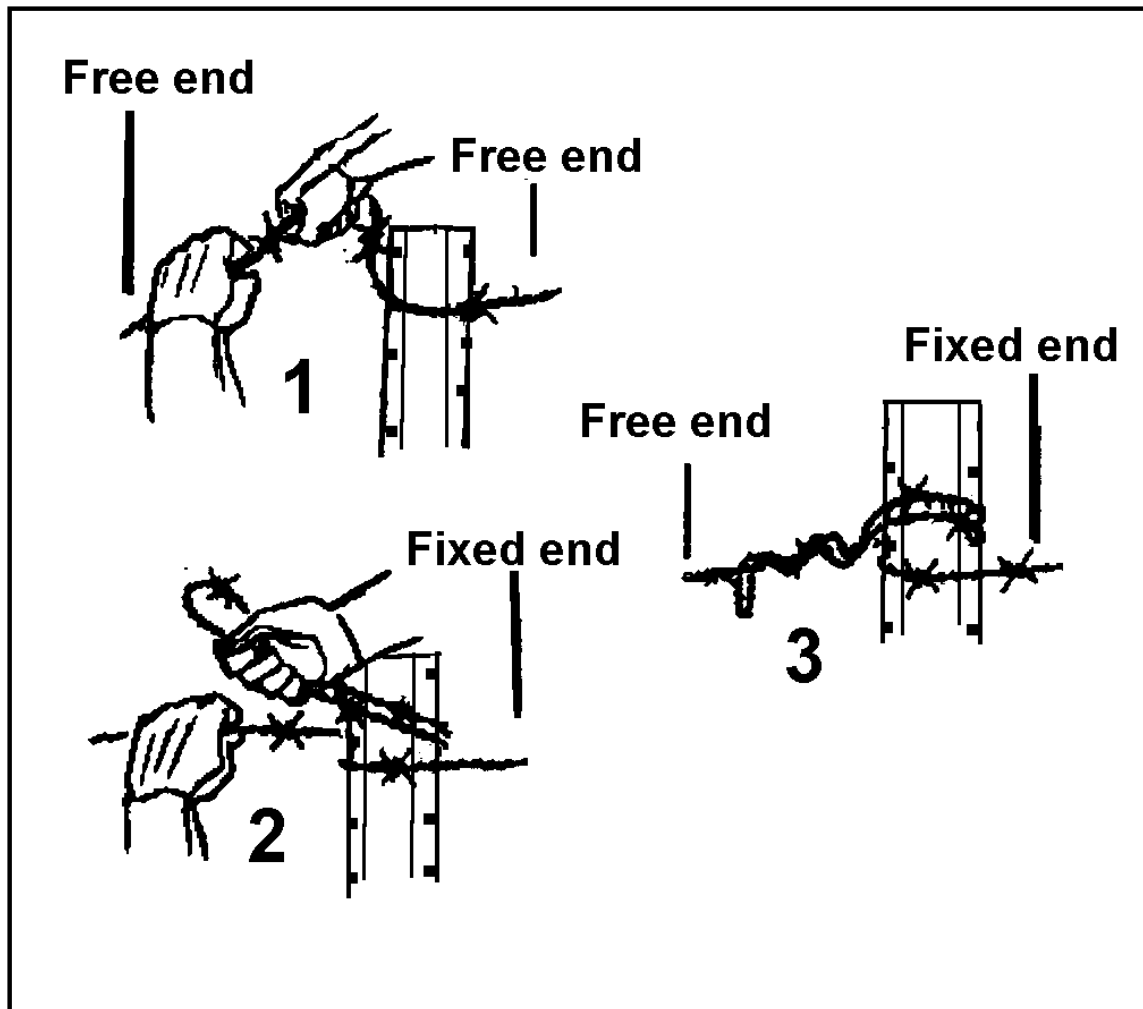

Figure 051-195-1020-1
- a. Make barbed-wire post ties (Figure 051-195-1020-1).